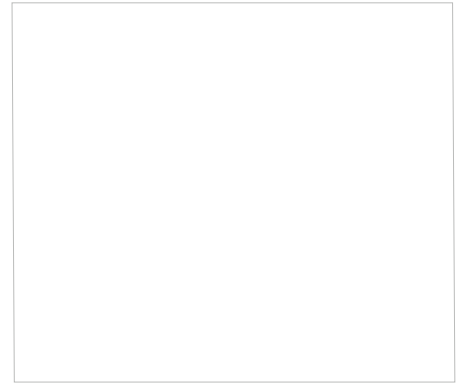

Fig:44
**Important: Only the Automatic Technology 4 Button Remote (Part No. 102335) is compatible with this system (see Fig:44).**